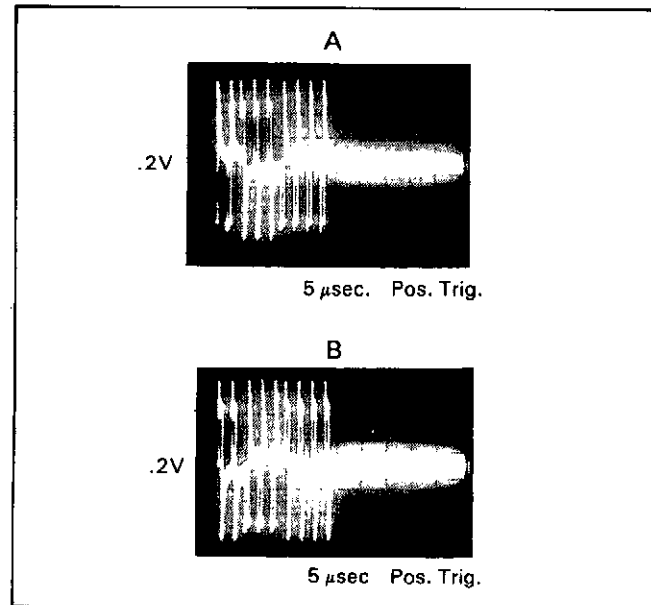

Figure 8-A-8. Output of U19.
- Check for the waveforms shown in Figure 8-A-9A, B, and C at U19 pin 1, 2, and 10, respectively. If the waveforms are good, replace U19.